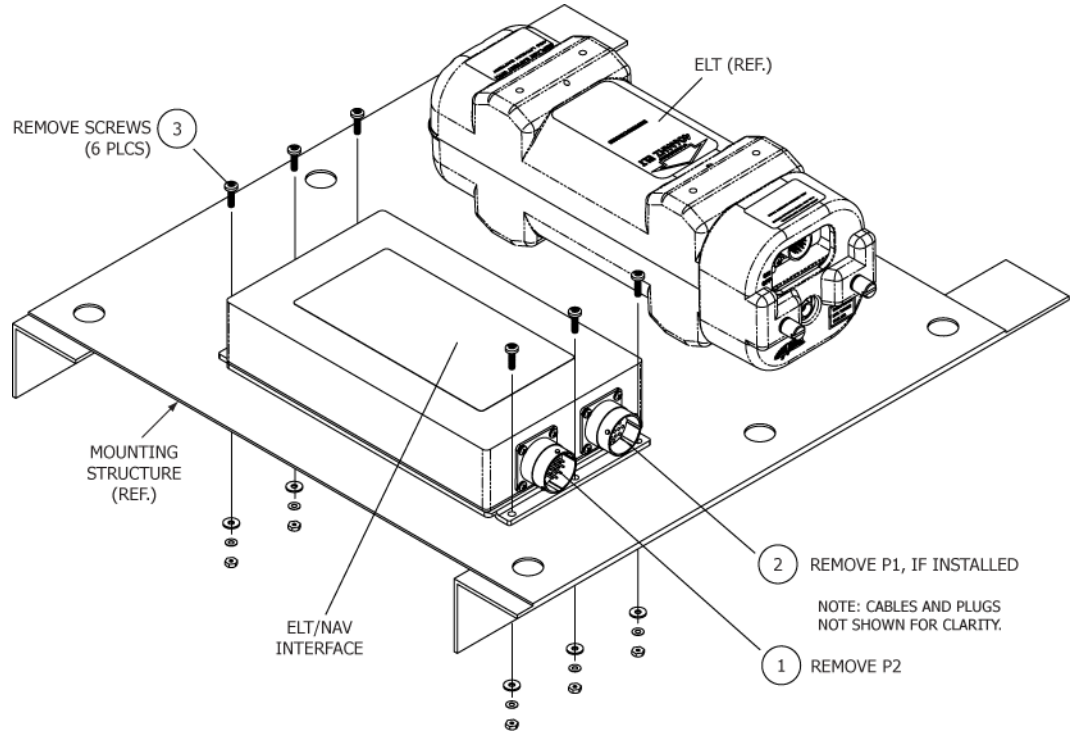

Figure 5 ELT/NAV Interface -B Removal
- 1) See Figure 5 ELT/NAV Interface -B Removal.